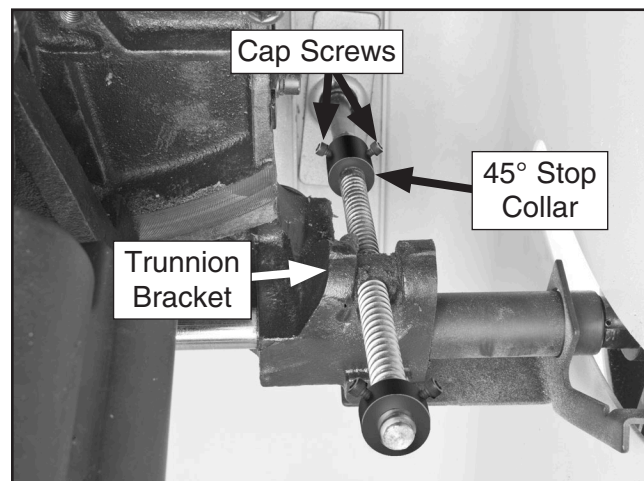

Figure 102. 45° stop collar.
- Open the motor access cover, loosen the cap screws on the 45° stop collar (see **Figure 102**), then turn the collar one turn away from the trunnion bracket. This will allow you to adjust the blade to exactly 45° in the next step.